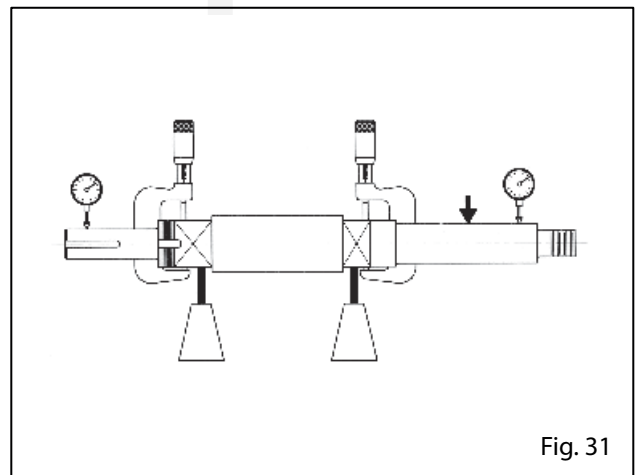

Fig. 31
- Inspect the shaft, reviewing the general aspects, replace if you have grooves or pits (see Figure 31).